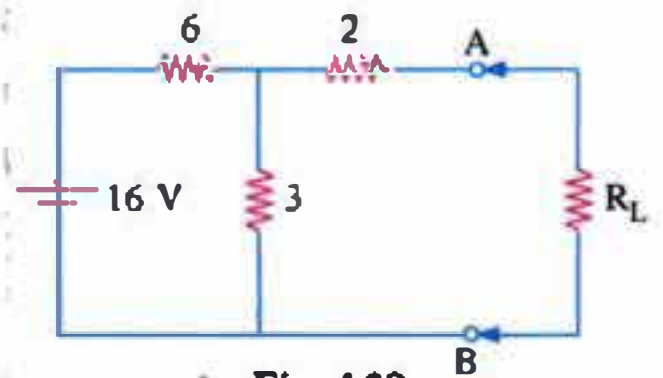

Fig. 4.28
7. According to Maximum Power Transfer Theorem, what should be the value of load resistance R_L to abstract maximum power from the 16 V battery shown in Fig. 4.28? What is the value of this power? [4 Ω , 16/9 W]